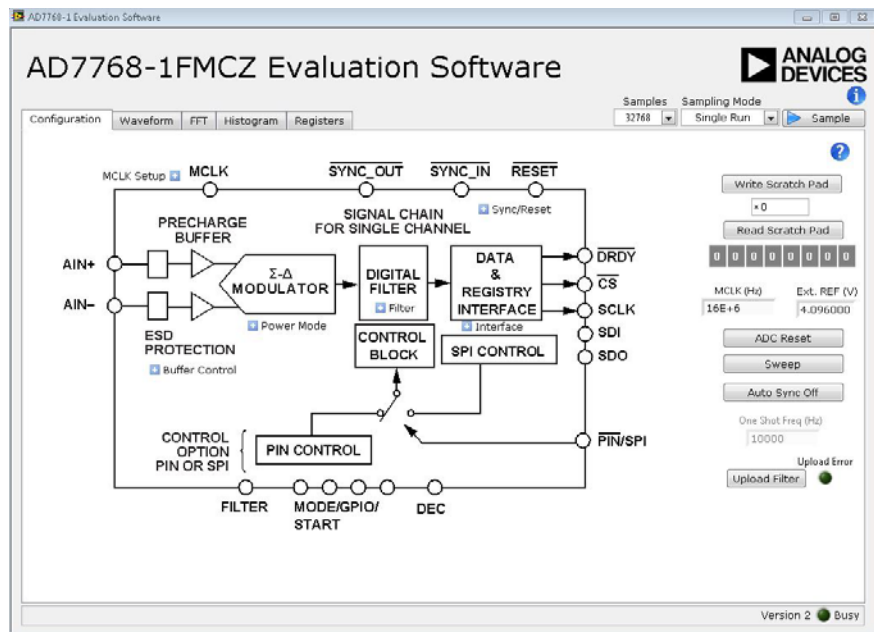

Figure 17. Configuration Tab
The **Configuration** tab is the tab displayed by default when the software first opens (see Figure 17). An overview of the **AD7768-1** block diagram is shown, along with buttons that open pop up menus for quick configuration of the device.
5. Set the MCLK frequency on the **Configuration** tab (see Figure 17). The output data rate (ODR) is set using a combination of the AD7768-1 MCLK and decimation rate. In $\overline{\text{PIN}}$ control mode, the registers are not used to configure the part. The register map settings of the EV-AD7768-1FMCZ software are no longer automatically updated to reflect the settings of the device.